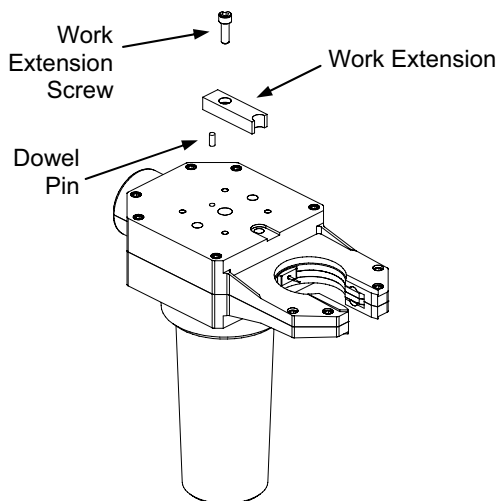

Figure 31 Removing the Work Extension
3. Remove the work extension screw with lock washer, and the work extension. Inspect the work extension for pitting, wear, or damage. See Figure 31.